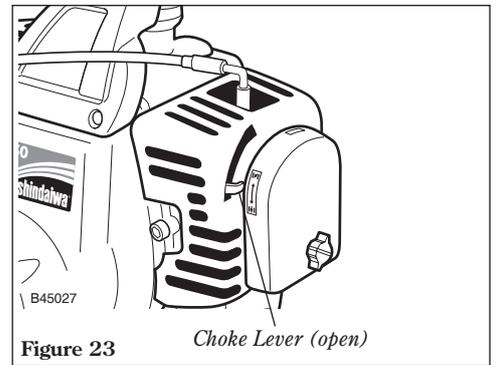

Figure 23
9. Move the choke lever down to the "open choke" position. See Figure 23.